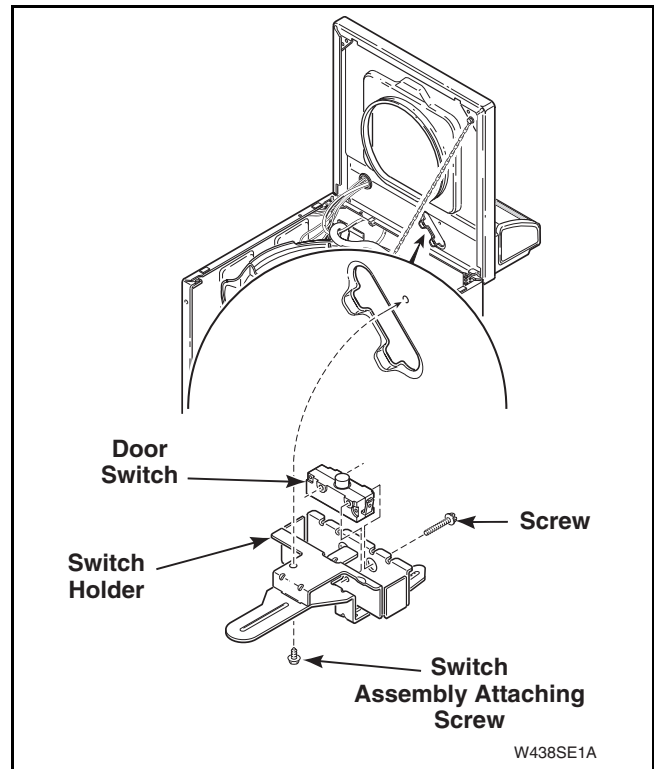

Figure 35
- Remove screw holding door switch assembly to underside of cabinet top. Refer to *Figure 35*.
- Remove two screws holding switch to switch holder. Refer to *Figure 35*.
NOTE: Cabinet top is self-supporting, however, a small chain may be used for additional support. Refer to *Figure 35*.